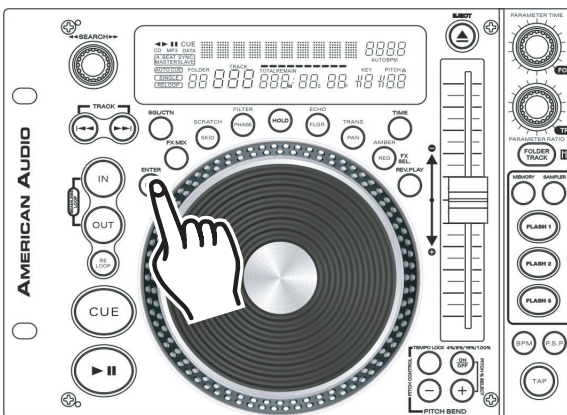

Figure 64
STEP TWO: Select the FX MIX BUTTON (6) to activate the FX Mix Mode as in figure 64.